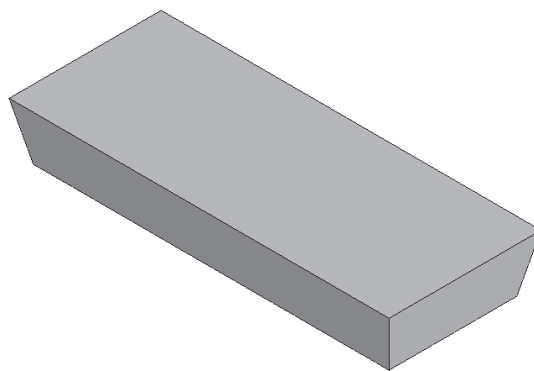

Figure 7-68 Model after adding the draft
- Add a draft to the base feature, refer to Figure 7-68.
5. Choose the **Finish** button to create the draft and then choose **Cancel** to exit this tool. The model, after adding the draft, is shown in Figure 7-68.